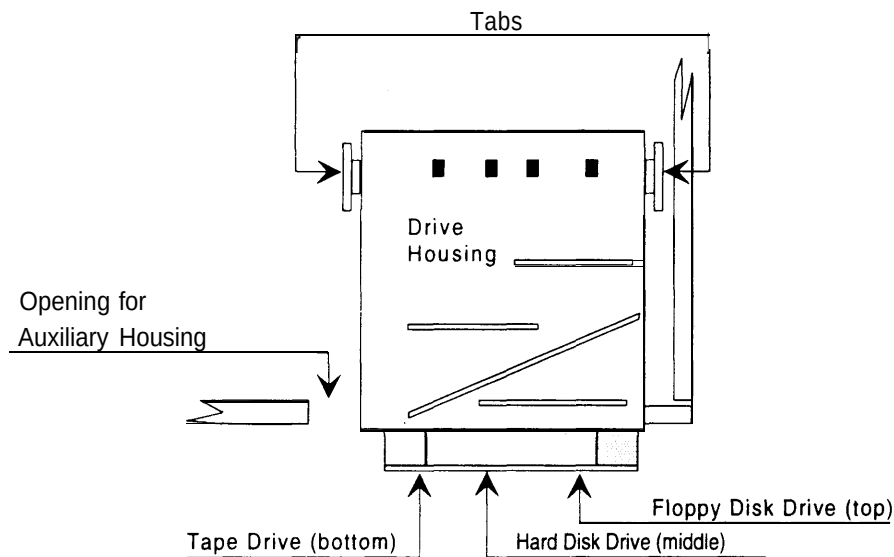

Figure 3-24. Location of Drive Housing Locking Tabs
To remove and replace the drive housing, refer to Figure 3-24 and follow these steps:
3. Locate the locking tabs as shown in Figure 3-24. Using the tip of a screwdriver, pull the tabs out until you can lift the rear of the drive housing.